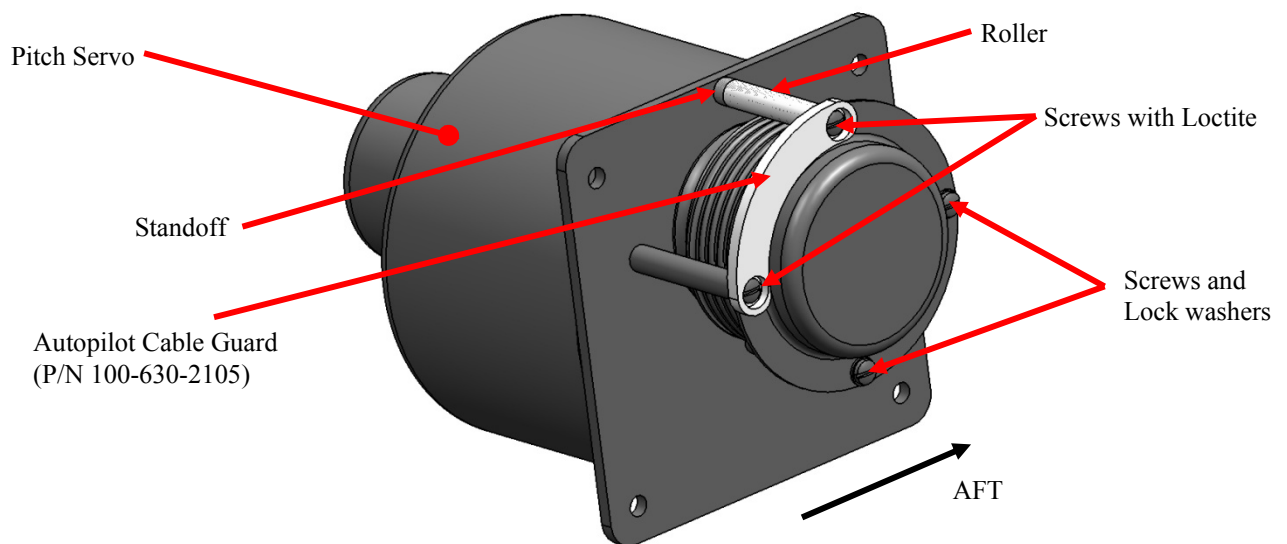

Figure 5-3: Standoff and Roller Assembly
3. Install the cable guard (P/N 100-630-2105) and cap as shown in **Figure 5-3**. Apply Loctite (P/N LOCTITE-242-0.5ML) to the threads of the two (2) screws that secure the cable guard just prior to installation. Using a 180° pattern, tighten all screws to finger tight, then tighten with a screwdriver. Ensure that the cap sits evenly on all standoffs.